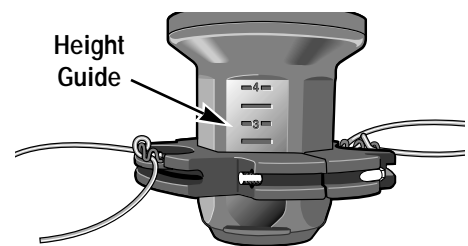

Figure 4-2
3. The cutting heights are marked on the side of the spindle head (Figure 4-2). Move the top of the trimmer head to the desired setting.